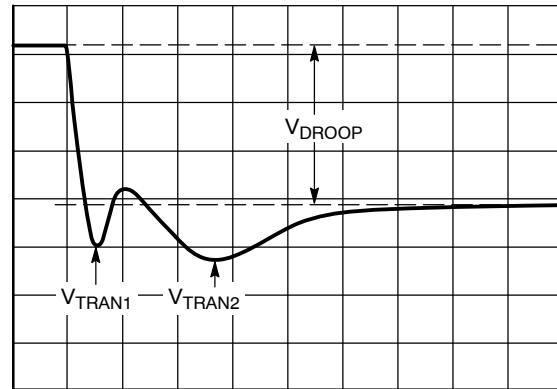

Figure 29. Transient Setting Waveform, Load Step
15. Users should see a waveform that similar to the one in Figure 29. Use the horizontal cursors to measure V_{ACDRP} and V_{DCDRP} as shown. Do not measure the undershoot or overshoot that occurs immediately after the step.
19. With dynamic load still set at the maximum step size, expand the scope time scale to see 2 $\mu\text{s}/\text{div}$ to 5 $\mu\text{s}/\text{div}$. A waveform that has two overshoots and one minor undershoot can result (see Figure 29). Here, V_{DROOP} is the final desired value.